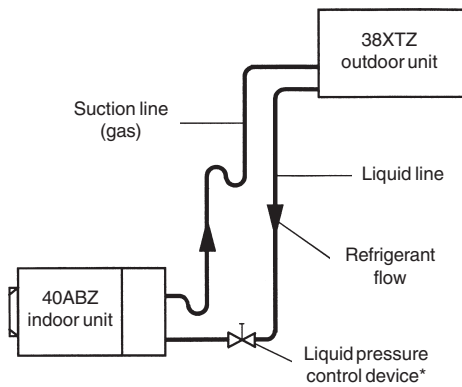

Fig. 45
- Outdoor unit above the indoor unit (Fig. 45). The suction line is unfavourable in cooling mode, the suction of the refrigerant gas corresponds to refrigerant flow direction, and is ascending.